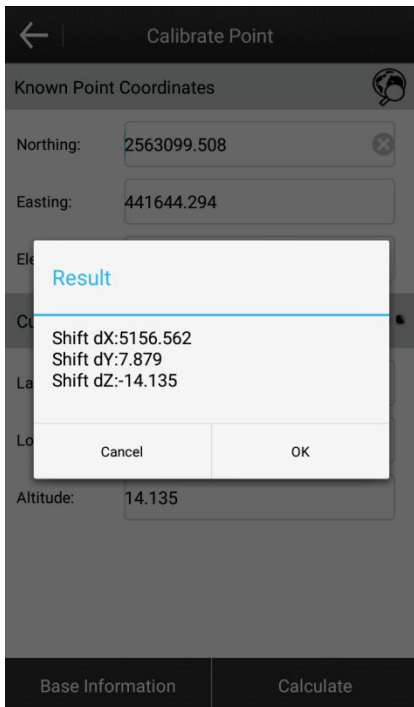

Figure7-10
4. Click “Calculate” to pop up the result as shown in Figure 7-10. Then click “Ok” to return to the calibrate point interface.